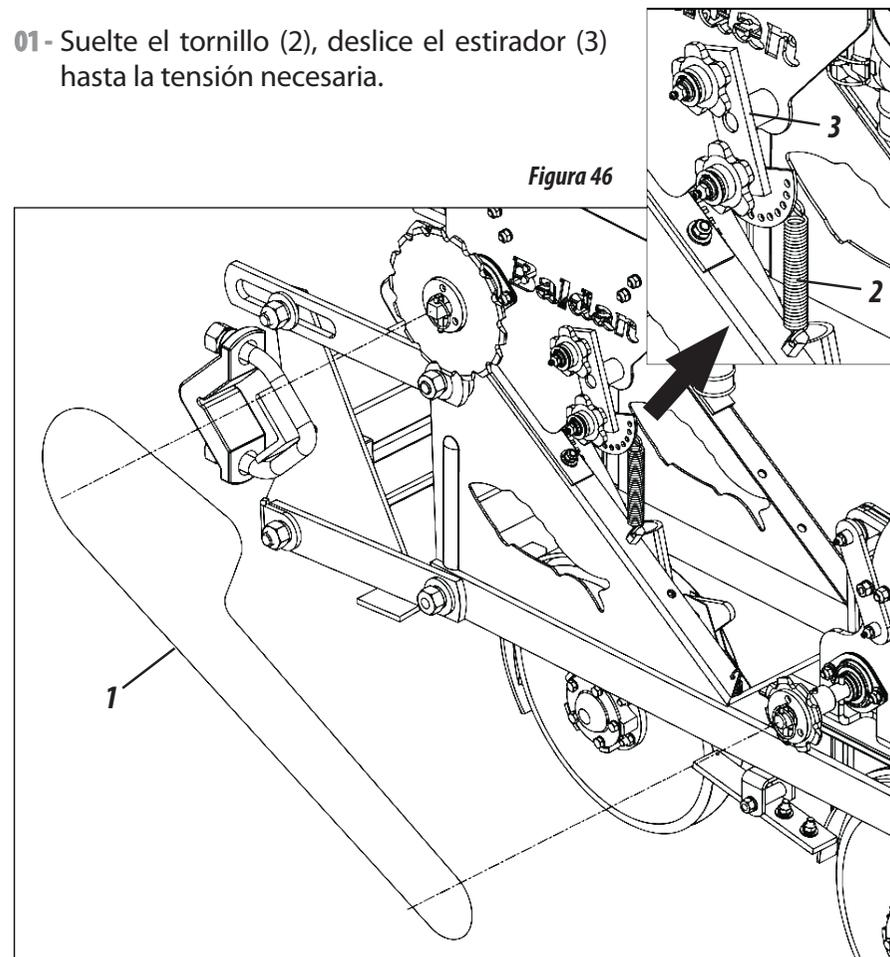

Figura 46
**TENSION DE LAS CADENAS ( FIGURA 46 )**